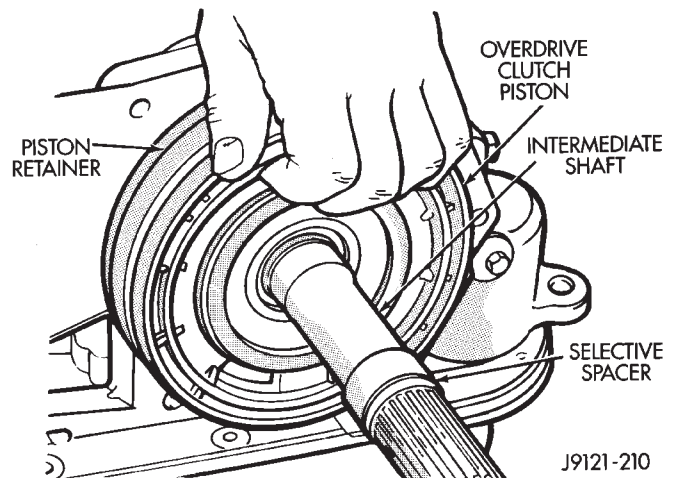

Fig. 7 Overdrive Piston Removal
(12) Remove overdrive piston from retainer (Fig. 7).